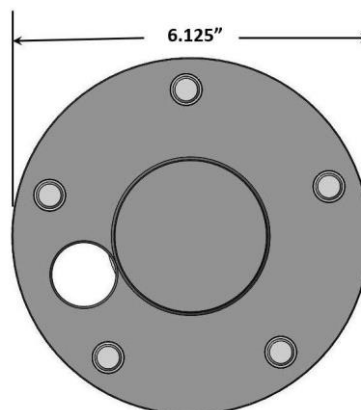

Figure 1 – Measuring the Axle Flange
4. The outer diameter of the axle flange can be no larger than 6.125" in outside diameter. This is critical for proper fitment of the rotor over the axle flange. For axles with a flange larger than 6.125", using a lathe, machine the outer flange down to the necessary diameter of 6.125". See Figure 1 below for measuring reference.